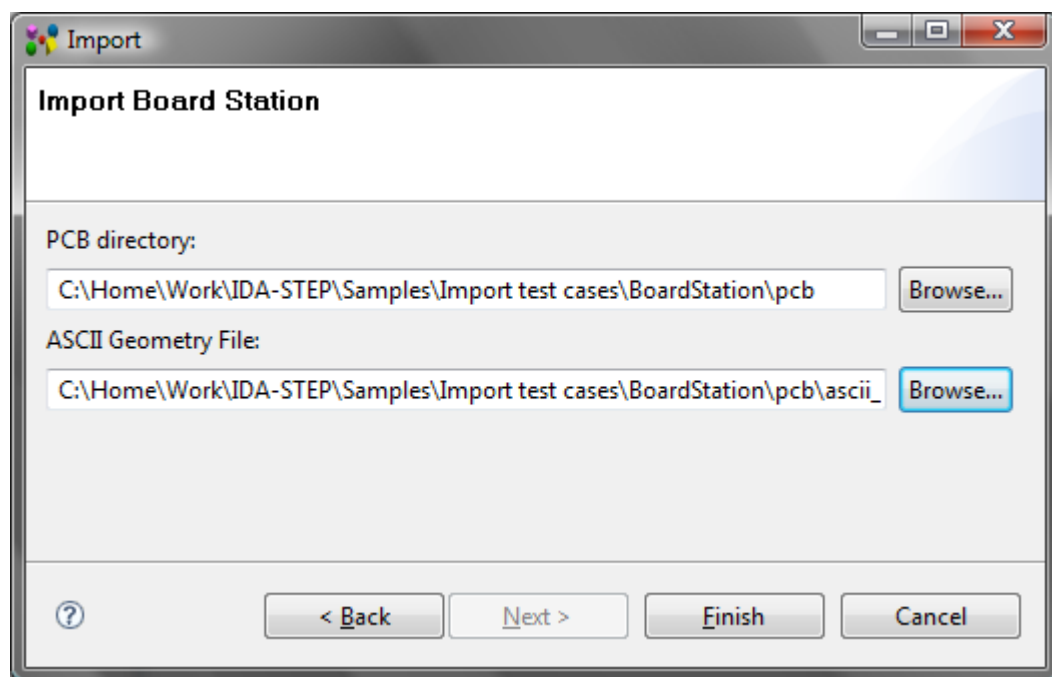

Figure 1. Import Board Station wizard page
- Select **Electronics ->  Board Station** item in the appeared **Import** wizard page. The **Import Board Station** wizard page appears on the screen (see Figure 1):